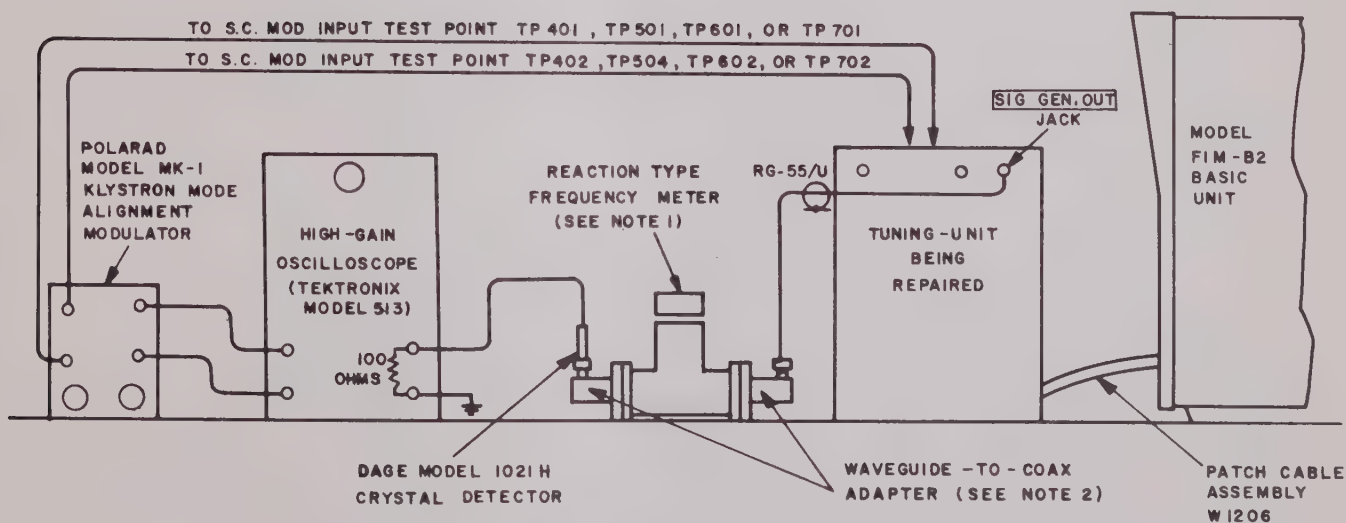

Figure 4-33. Tracking Signal Calibrator Reflecter Voltage, Equipment Set Up.
a. Connect r-f cable assembly W1202 between the SIG GEN OUT jack and the input connector of a frequency meter, as shown in figure 4-33.
b. Connect a crystal detector, having a d-c return, to the output connector of the frequency meter, as shown in figure 4-33.
c. Connect the vertical input terminals of a high-gain oscilloscope across the output of the crystal detector, as shown in figure 4-33.
d. Connect the "reflector" terminals of a Polarad Model MK-1 Klystron Mode Alignment Modulator (see figure 4-27) to the Tuning Unit S.C. Mod Input test points, TP/01 and TP/02 (TP401 and TP402), as shown in figure 4-33.
e. Connect the horizontal input terminals of the high-gain oscilloscope to the "h scope" and "ground" terminals of the MK-1, as shown in figure 4-33.
f. Connect patch cable assembly W1206 between P1150 of the Tuning Unit and J1150 of the Basic Unit, as shown in figure 4-33.
Unit S.C. Mod Input test points, TP601 and TP602 (TP501 and TP502), as shown in figure 4-33.
e. Connect the horizontal input terminals of the high-gain oscilloscope to the "h scope" and "ground" terminals of the Model MK-1, as shown in figure 4-33.